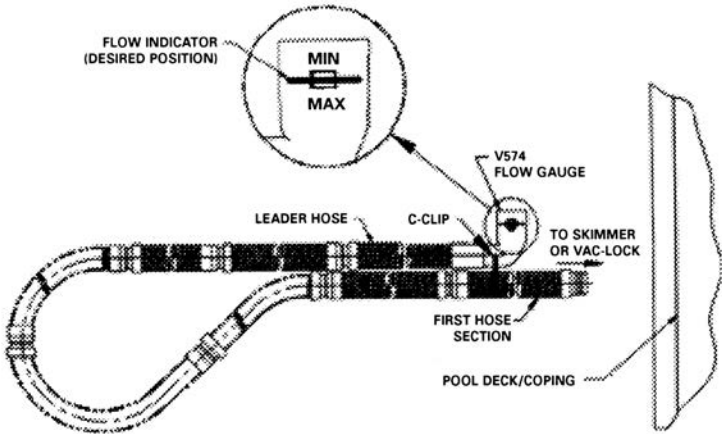
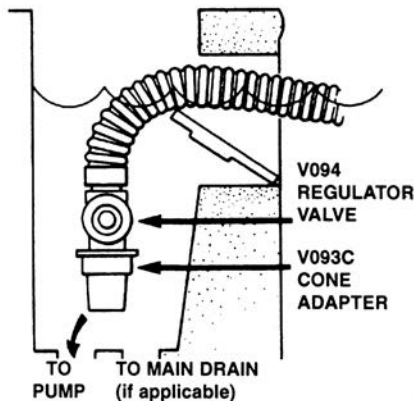

Figure 2
Figure 4
The hose should reach from the skimmer or Hayward Vac Lock® to the furthest point in the pool, **plus two (2) extra hose sections**. (The length of each hose section is four feet.) **This extra length is absolutely necessary for proper operation of your Hayward Cleaner.** If the hose is not long enough, it will be necessary to purchase additional hose sections from your Hayward dealer. The hose length supplied has been determined to be sufficient for the class and size of pools for which each type of cleaner is sold – 40 feet for PV XL & NAV Pro, 32 feet for PV Classic. If your hose requirement is more than this, you must obtain additional hose sections for your cleaner to work properly. After the correct hose length has been assembled, fill hose completely with water. Insert Flow Gauge into the leader hose, then attach the C-Clip of the gauge onto the first hose section. Make sure the Flow Gauge is under water. (see Figure 2)
Check the water flow reading on the Flow Gauge. (Refer to Step 4, Figure 2). The black disk should be in the box between the “MIN” and “MAX” markings. If the setting is higher than required with the black disk outside of the box on the “MAX” side and you have connected your hose to the skimmer, it will be necessary to reduce the vacuum/water flow by using a valve or valves in the filter system, or the Hayward V094 Regulator Valve or an optional Hayward Automatic Skimmer Vacuum Plate designed to adjust vacuum/water flow. To install the V094 Regulator Valve, turn the filter system off, remove the hose from the V093C Skimmer Cone, and after closing the Regulator Valve (Rotate the blue collar clockwise until tight), insert the Valve into the Skimmer Cone, and insert the hose end into the Valve (see Figure 4).
If you have connected your hose to the Hayward Vac Lock, it will be necessary to adjust the vacuum/water flow using the 3-way valve at the filter system. The handle on the valve should be turned so that the Flow Gauge which is installed in the Cleaner hose reads properly (*refer to Figure 2*). After the 3-way valve has been properly adjusted, **the 3-way valve should be marked so that the water flow can be adjusted by referring to the valve handle mark**, rather than reinstalling the Flow Gauge in the hose each time an adjustment is necessary.
Some skimmers have two (2) holes in the bottom. There might be a valve, float or cover over the holes. Remove everything in the skimmer, exposing the holes. The rear hole is usually the suction port. In some cases it will be necessary to use the V094 Regulator Valve to control water flow through the Cleaner (see *Figure 4*).